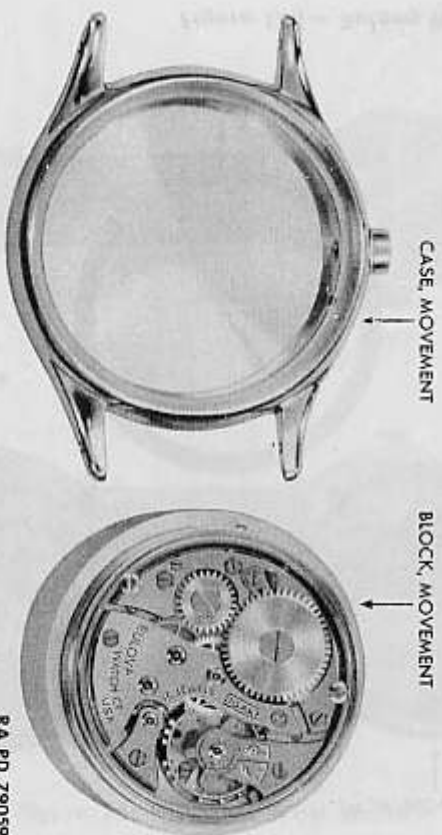

Figure 168 — Bulova Wrist Watch — Movement Removed From Case
**e. Remove Movement From Case (fig. 168).** Lay the movement on the bench, tap lightly on the case, and lift case off the movement.